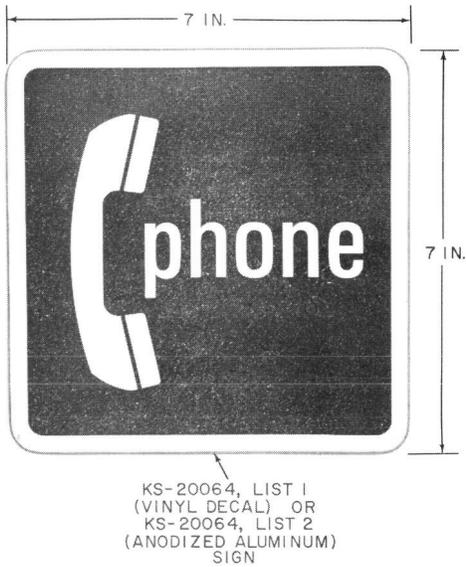

Fig. 10—KS-20064, List 1 or KS-20064, List 2 Sign
- (a) KS-20064, List 1 (Fig. 10)
- (b) KS-20064, List 2 (Fig. 10)